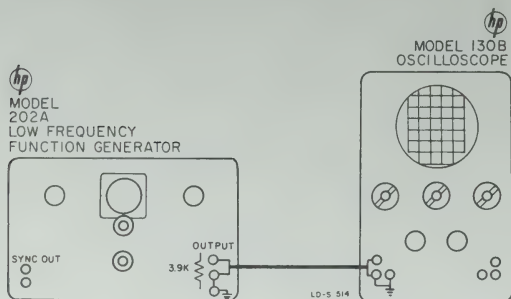

Figure 4-4. Output Voltage and Sync Pulse Test Setup
- 6) The ratio obtained in step 5 must be 15 to 1. Adjust by loosening the coupler between the dial and potentiometer (R58) shafts. See Figure 4-4 for coupler access hole location. Rotate one shaft with respect to the other to obtain a period of 83.3 milliseconds with a dial reading of 12. Tighten both set screws in the coupler.
- 1) Connect test setup as shown in figure 4-4, including a 3.9K ohm shunt resistor across the OUTPUT terminals of Model 202A.
- 1) Connect test setup as shown in figure 4-4, except oscilloscope is to be connected to SYNC. OUT on Model 202A and not to OUTPUT.
1) Connect test setup as shown in Figure 4-4.